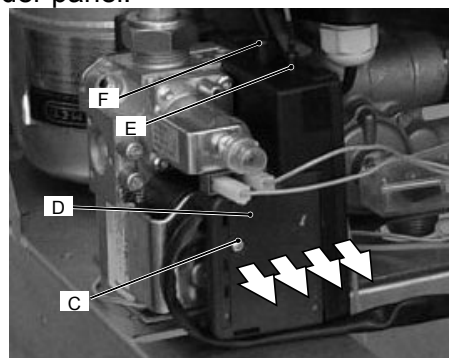

Figure 2
detection cable E and ignition cable F (Figure 2).
4) Pull the ignition device out, pulling it frontally (follow the arrows on Figure 2).